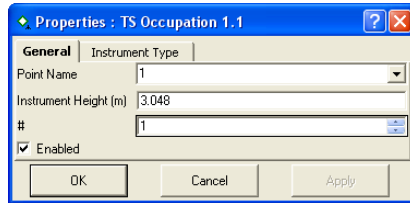

Figure 5-86. General Properties
- View or edit *General* tab fields (Figure 5-86).